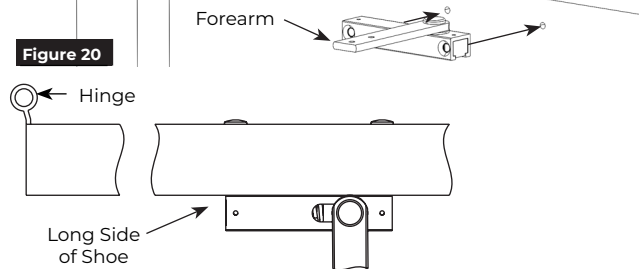

Figure 21 View from ceiling looking downward
**NOTE:** Orient shoe with long side of shoe toward hinge. (Figure 21)